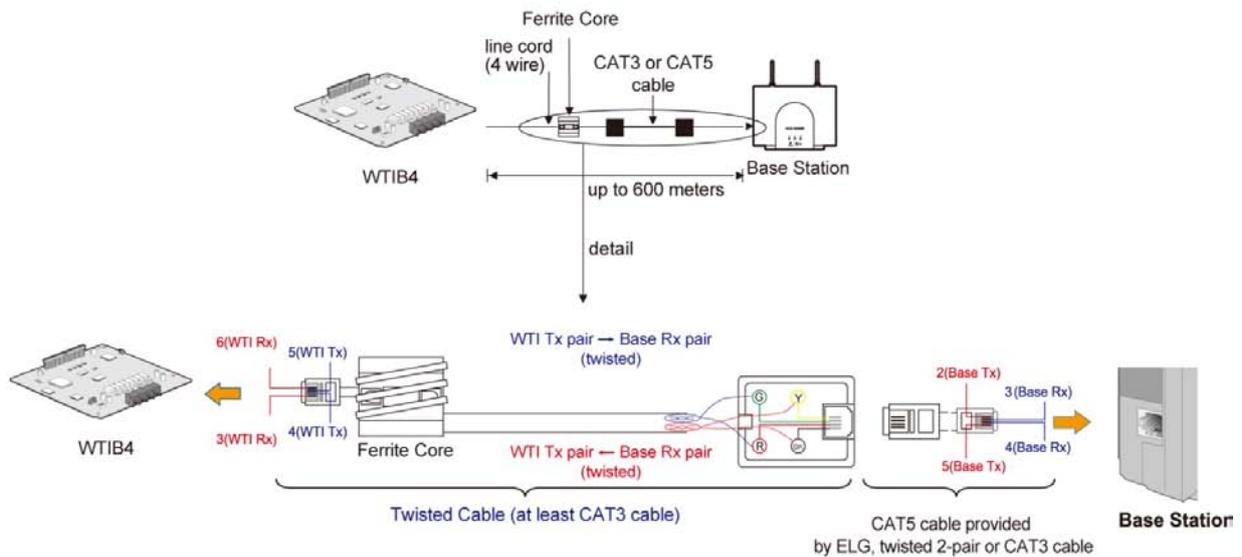

Figure 6.4.8-1 WTIB4 Wiring with Ferrite Core
The WTIB4 has four RJ11 modular jacks for connection to GDC-600BE DECT Base Stations. The connectors are terminated as shown in the chart below. Special care is needed when wiring the WTIB4 modular jacks. As shown in Figure 6.4.8-1, a Ferrite core, which is provided with the Base Station, must be installed on the wiring to each modular jack to minimize induced interference. After completing installation and initial power-up of the eMG80 system, the DECT Base Stations can be located and installed as directed in the DECT Installation manual, GDC-600TBE (CRS tool) user manual. After installing the Base Stations, the DECT handsets can be subscribed to the Base Stations and registered to the system.
3. Pass the wiring through the Ferrite core. Creating at least three turns through the core as shown in Figure 6.4.8-1.